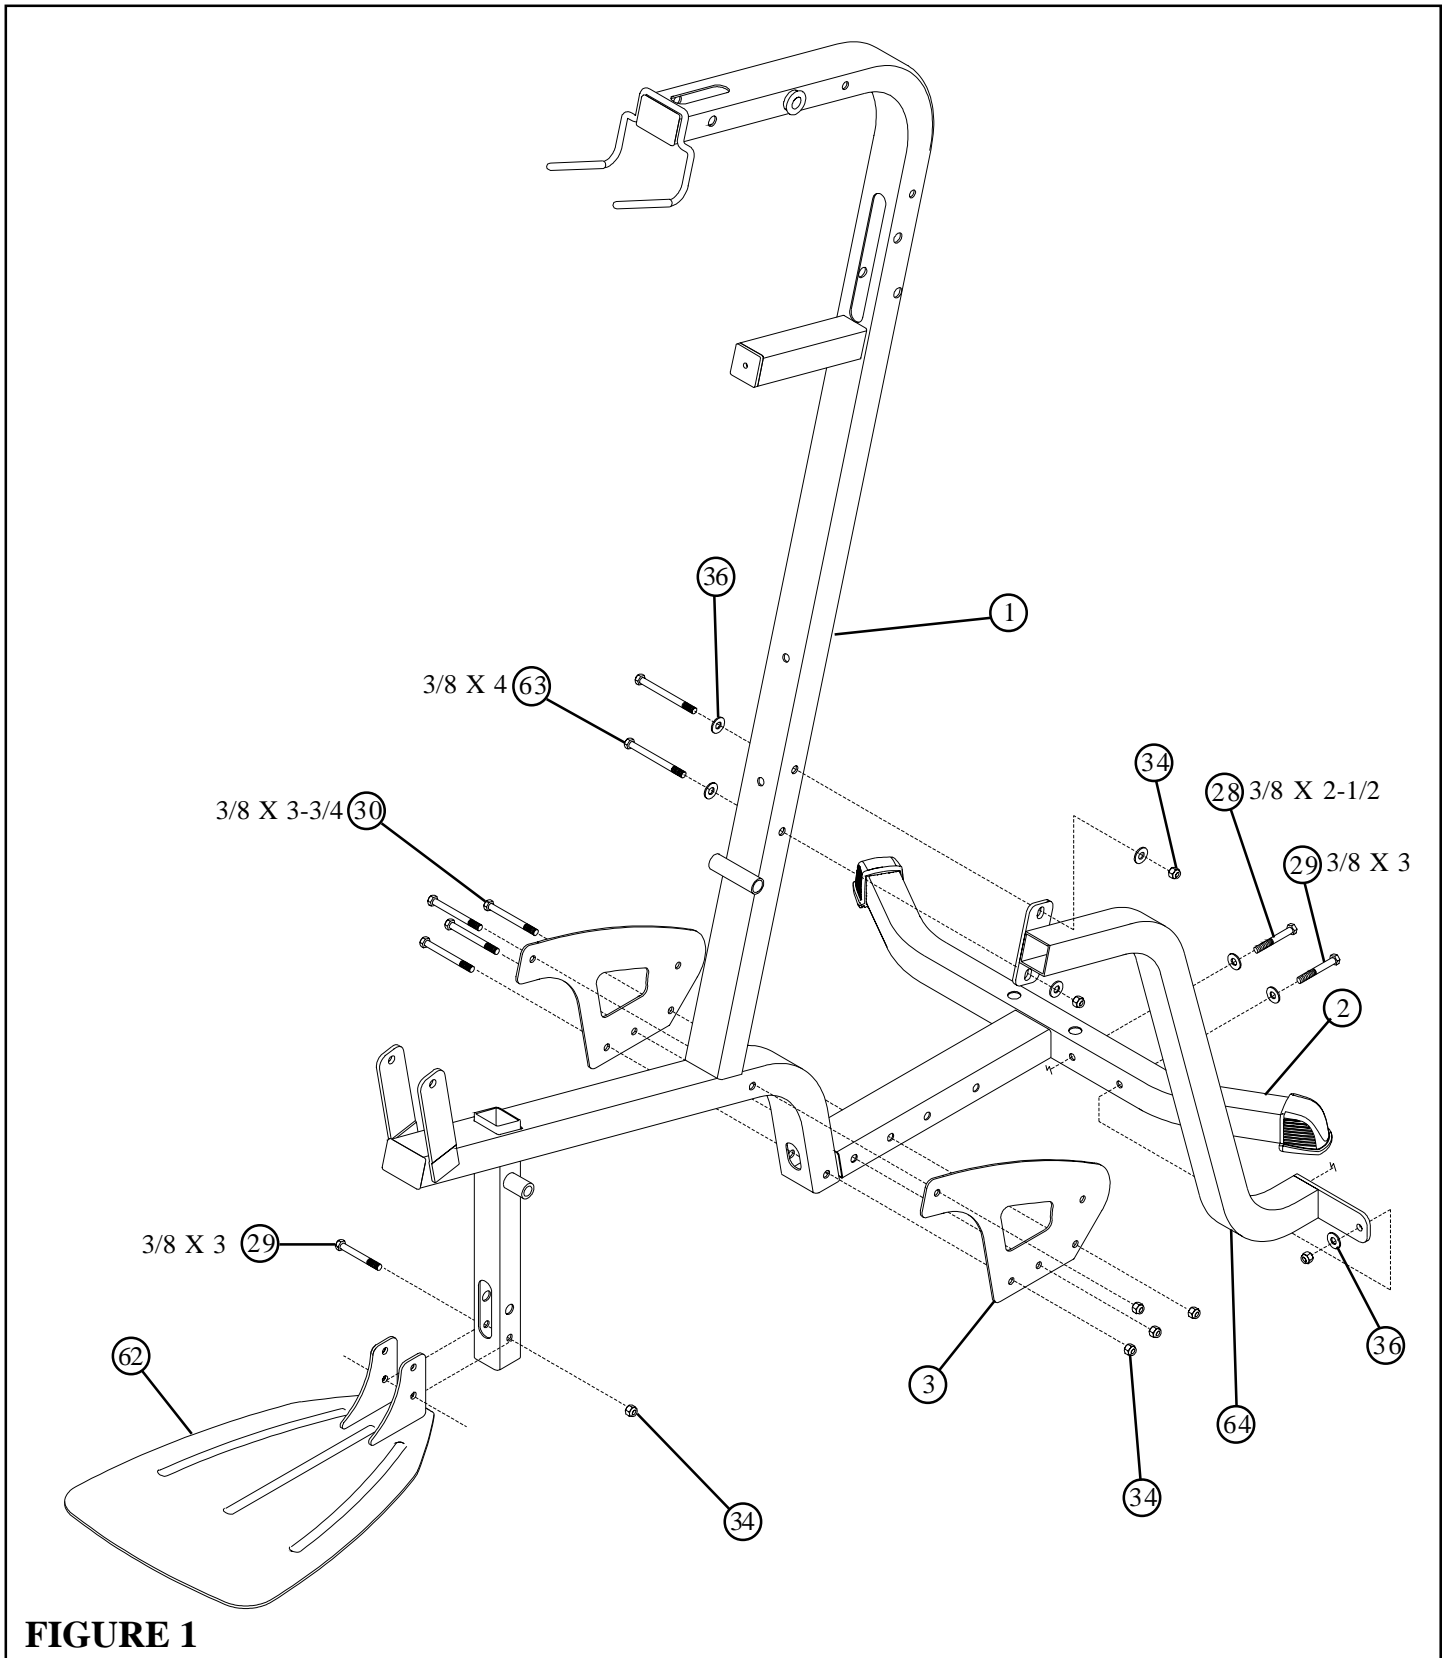

FIGURE 1
- **LOOSELY** assemble two BASE PLATES (3) to the FRAME (1) and BASE (2) using four 3/8 X 3-3/4" BOLTS (30) and four 3/8" LOCK NUTS (34). See FIGURE 1.
- **LOOSELY** assemble the FOOTPLATE (62) to the lower holes in the FRAME (1) using one 3/8 x 3" BOLT (29) and one 3/8 LOCKNUT (34)
- **LOOSELY** assemble the **TOP** of FRAME BRACE (64) to the FRAME (1) using two 3/8 x 4" BOLT (63), two 3/8 WASHERS (36) and two 3/8 LOCKNUTS (34) Assemble **BOTTOM** of FRAME BRACE (64) to FRAME (2) using one 3/8 x 3" BOLT (29), one 3/8 x 2-1/2" BOLT (28) three 3/8 WASHERS (36) and one 3/8 LOCKNUT (34)